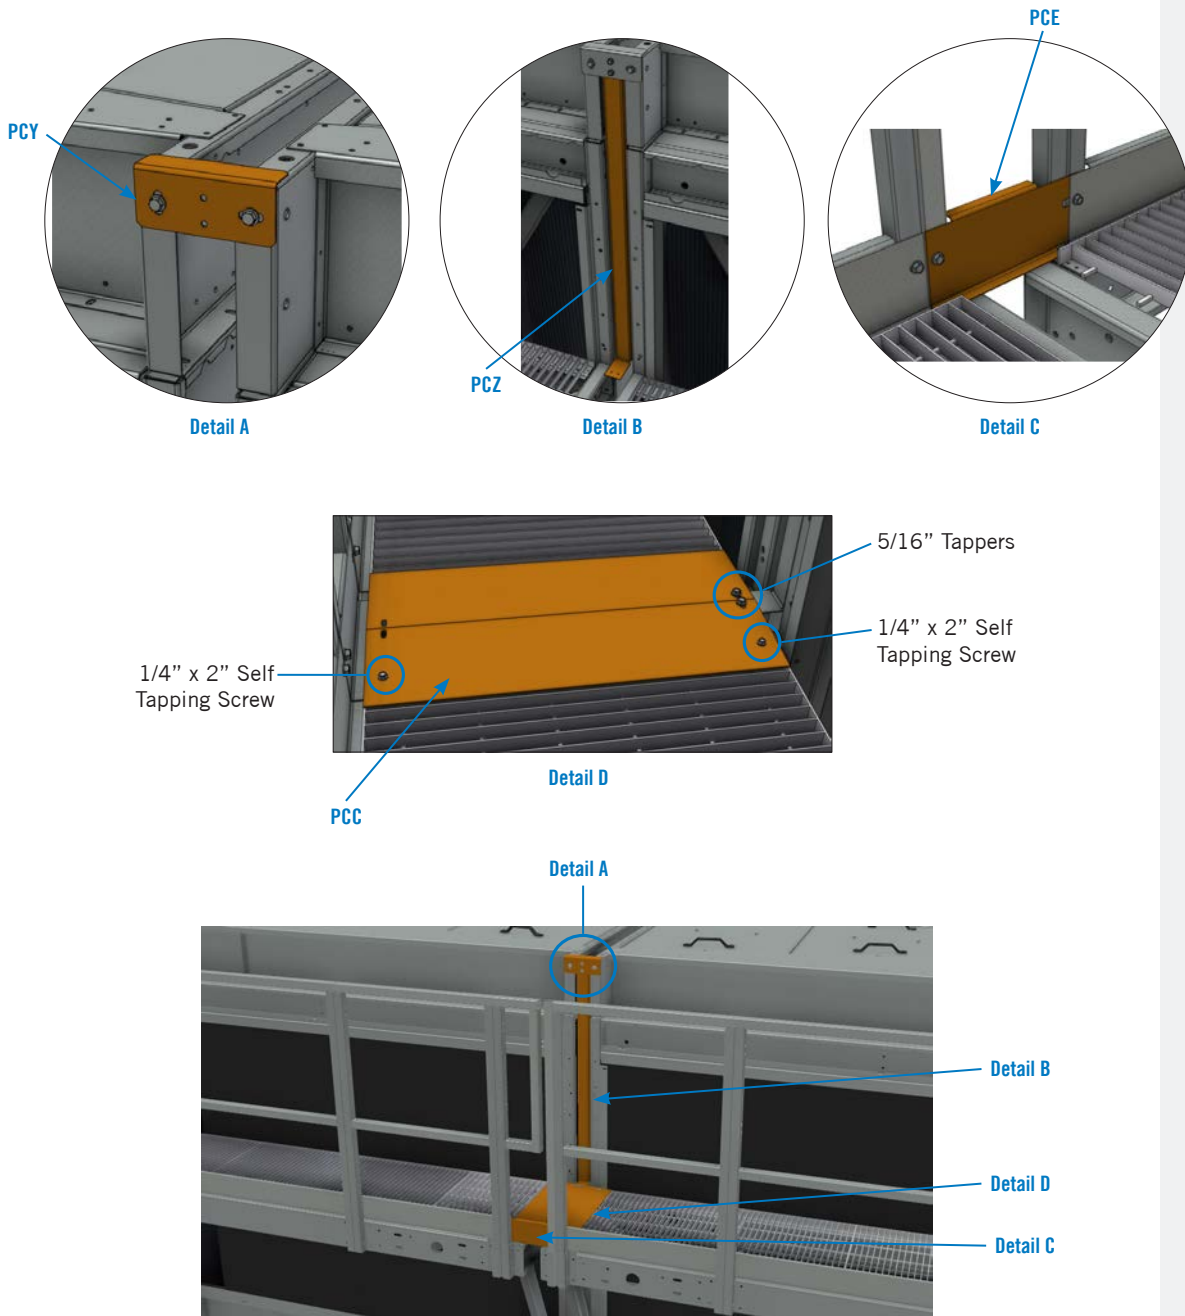

Figure 25. External Access Platform
2. Fasten the top gap cover bracket using 3/8" bolts provided. See **Figure 25, Detail A**.